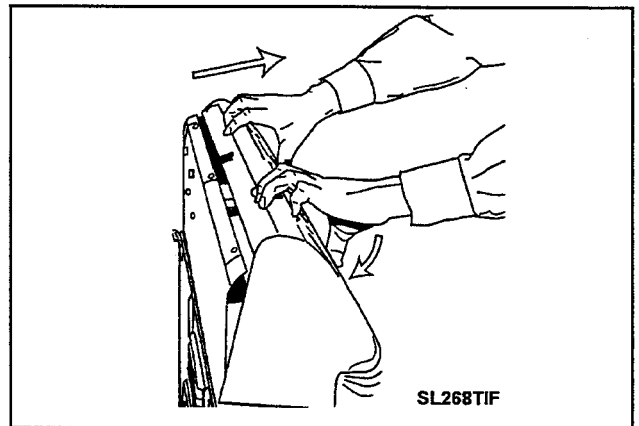

Figure 4-3
5. Push the bottom of the console toward the back panel to disengage the six locking feet from the top cover (*Figure 4-3*).